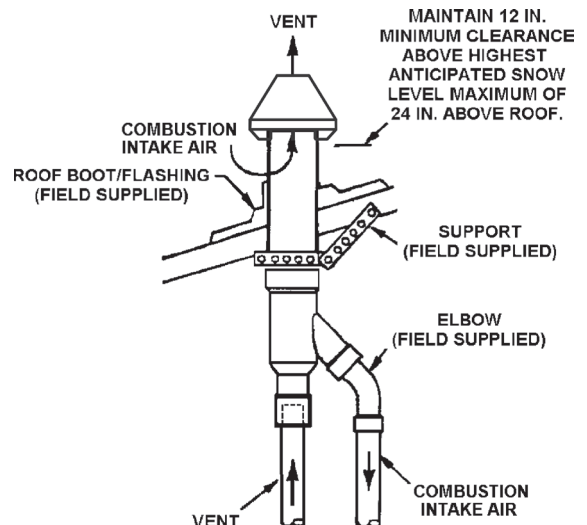

Figure 28
5. Secure assembly to roof structure as shown in Figure 28 using field supplied metal strapping or equivalent support material.
NOTE: Ensure termination height is above the roof surface or anticipated snow level as shown in Figure 28.
7. Cement water heater combustion air intake and vent pipes to concentric vent termination assembly. See Figure 28 for proper pipe attachment.